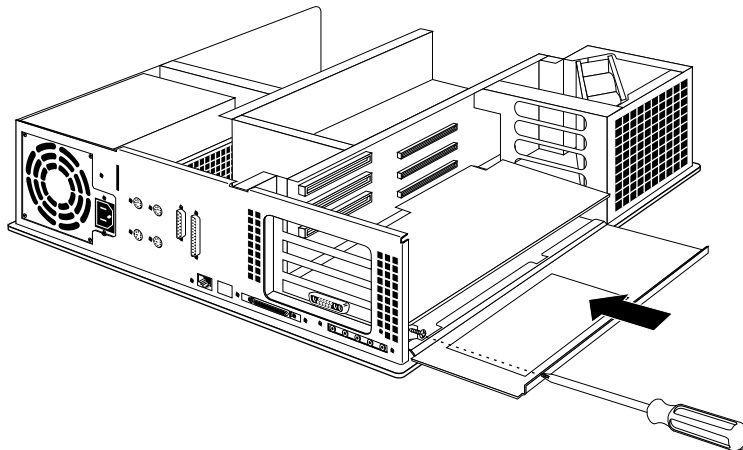

Figure 8-12 Replacing the XL Graphics Board in the Chassis
- Align the metal extension on the left of the board with the slot on the chassis. At the same time align the right edge of the board with the metal grooves on the right of the chassis, as shown in Figure 8-12.
7. Insert and tighten the screw that holds the board to the chassis. The screw opening is located on the metal extension on the left side of the board. (See Figure 8-12).